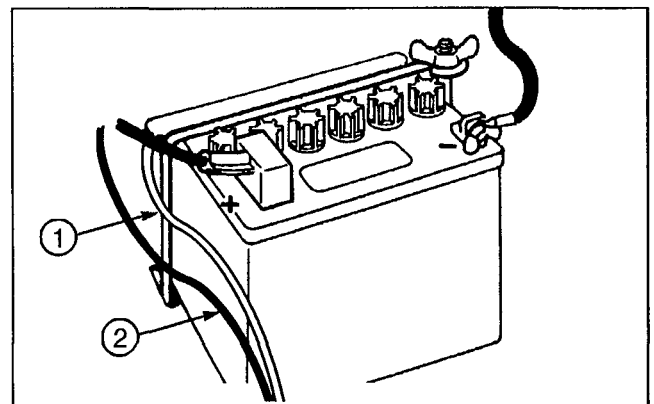

Figure 6
9. Install the battery with the terminal posts toward the rear of the machine and vent tube on left side of battery, thru hole in frame (Fig. 6).
11. Install the red positive cable (rubber boot over end) to the positive (+) terminal and the negative cable (black) to the negative (-) terminal of the battery and secure with capscrews and wing nuts. Slide the rubber boot over the positive terminal to prevent a possible short-out from occurring (Fig. 6).